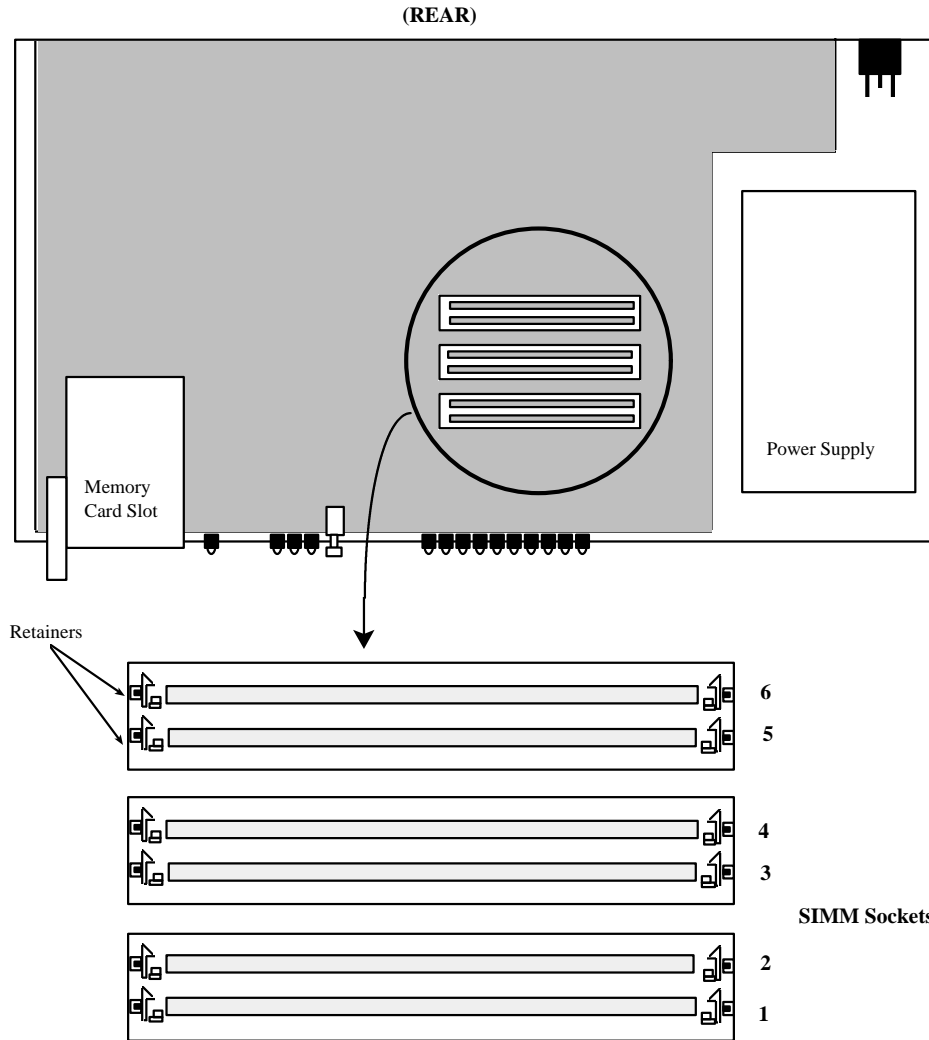

Figure 37 - Location of SIMM Sockets
5. Locate the SIMM sockets inside the MAXserver (see Figure 37).